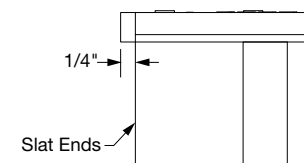

Fig 67
- b. Backer should extend 1/4" past the slat ends to re-create the tegular edge (*Fig 67*).